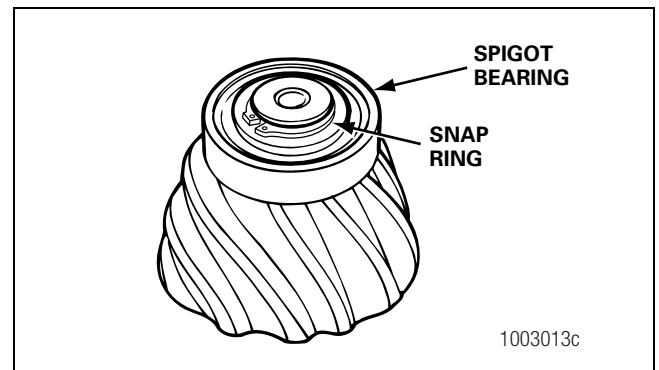

Figure 3.31
8. Remove the snap ring, if equipped, from the end of the drive pinion with snap ring pliers that expand. Figure 3.31.